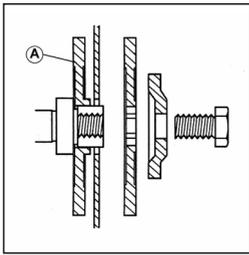

FIG. 1
- Install blade flange 'A' on the inner side when the arbor hole in the cutting disc is $\varnothing 22.2\text{mm}$ ($\varnothing 7/8''$). **(FIG. 1)**